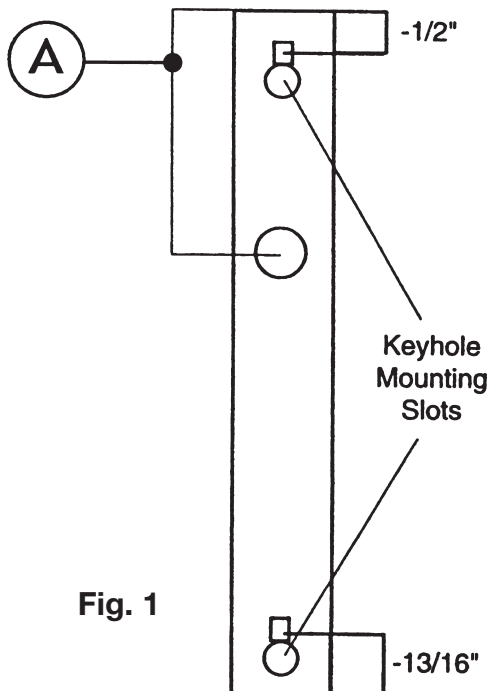

Fig. 1
1. Mark location of screws for keyhole slots (Fig. 1). Minimum screw size for mounting – #8 x 1-1/4".